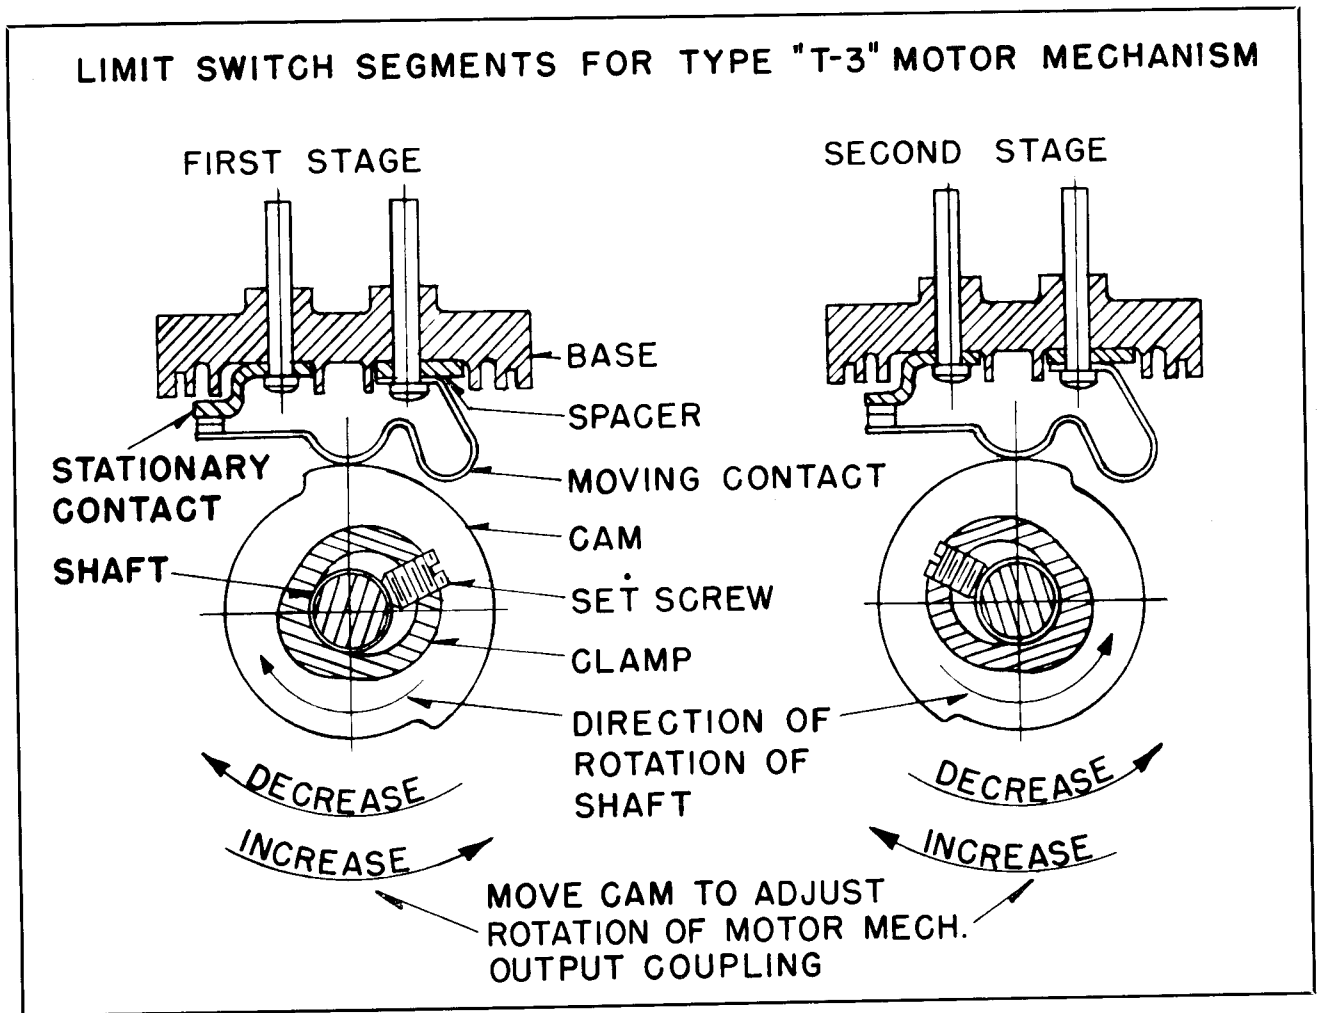

FIG. 4. Limit Switch Adjustments
contact can be established at any point in the operating cycle. See Fig. 4.
To make adjustments in the limit switch, the cam is first, unlocked from the main shaft of the auxiliary switch. This is done by loosening the set screw in the clamping ring located above the cam. The cam is then rotated separately by hand to the desired position. See Fig. 4. The cam is then locked to the main shaft by tightening the set screw in the clamping ring.
6. Check the position of contact of the limit switch, (second stage from the top of the type WA Auxiliary Switch marked Sf and CS). The contacts should just barely be open at the open position of the disconnect switch. If necessary adjust cam. See Fig. 4.
9. In this position, check the position of the contacts of the limit switch (First stage at the top of the type WA Auxiliary Switch marked SF and CT). The contacts should just barely be open at the closed position of the disconnect switch. If necessary, adjust cam. See Fig. 4.
7. Check the contacts of the limit switch (first stage at the top of the Type WA Auxiliary Switch marked SF-CT, located in the lower compartment). The contacts should just barely be open. If necessary adjust cam per Fig. 4.
WA Auxiliary Switch, marked SF-CS). The contacts should just barely be open. If necessary, adjust cam per Fig. 4.